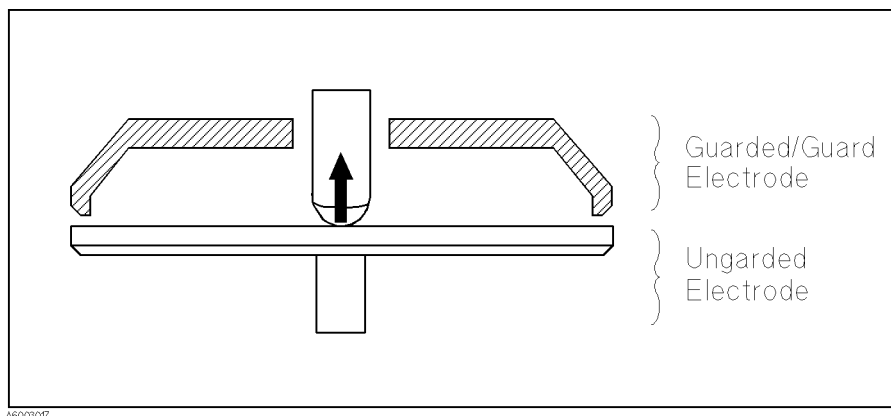

Figure 3-24. SHORT Correction for Thin Film Electrodes
2. Turn the small knob cw to contact the Guarded electrode to the Unguarded electrode as shown in Figure 3-24. The Guard electrode is spring-loaded and is designed to contact earlier than the Guard electrode. But do not turn the knob until the Guard electrode contacts with the Unguarded electrode.